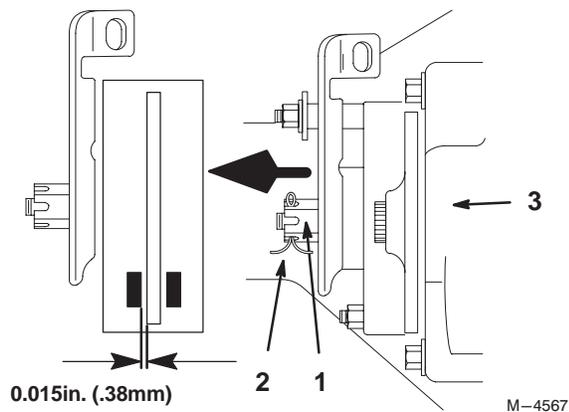

Figure 28
3. To adjust the brake remove the cotter pin and loosen the brake adjusting nut slightly (Fig. 28).
4. Carefully insert a 0.015 in. (.38 mm) feeler gauge between the outer brake pad and rotor disk (Fig. 28).